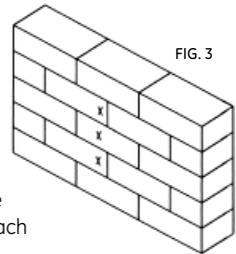

FIG. 3
2. While another person holds the wall plate in place, mark three evenly spaced locations on the wall for securing the mount (see Fig. 3).